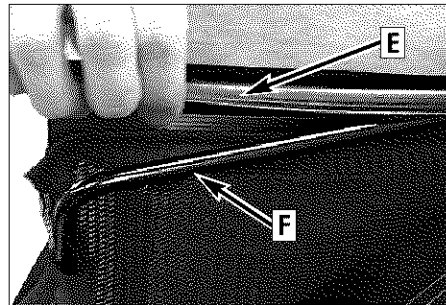

Figure 5-13
3. The bag is mounted over the wire frame and under the door, and is held in place with four plastic clips (E, Figure 5-13). Remove each of the clips by pulling from an end and off the frame (F).
6. Press each of the bag's four plastic clips (E, Figure 5-13) onto the frame opening (F).